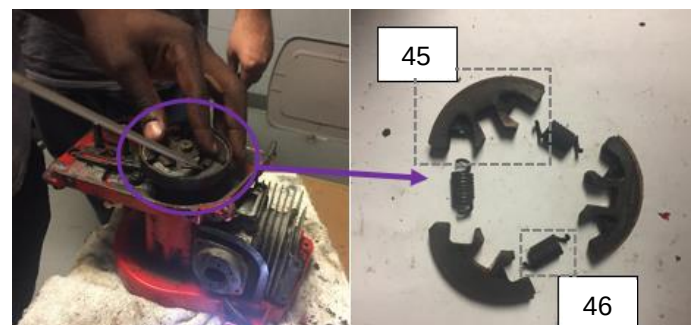

Figure 22: Clutch and Clutch Spring Removal
Step 19: Use a Flathead Screwdriver to compress and remove the three Clutch Springs (46). Then manually remove the three Clutch Pieces (45) from the main assembly. (Figure 22)